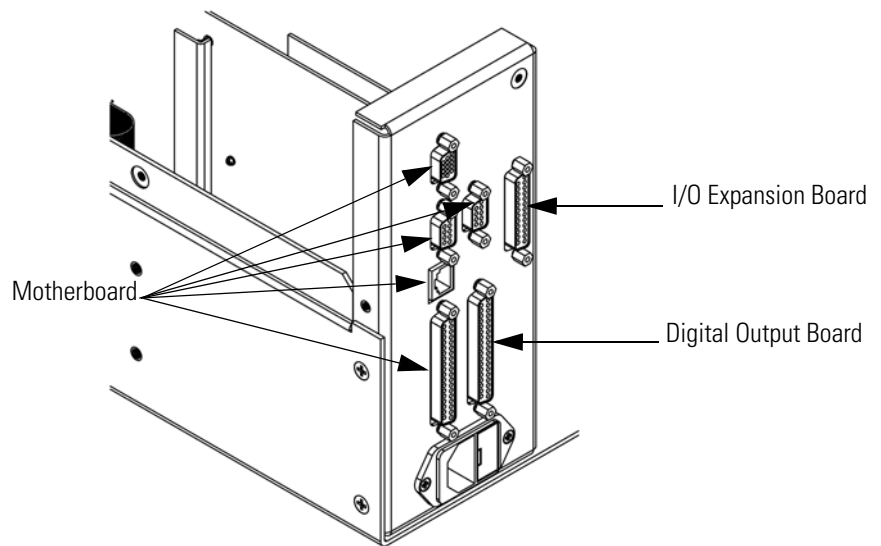

Figure 7-19. Rear Panel Board Connectors
3. Remove the standoffs holding the I/O expansion board connector to the rear panel (Figure 7-19).
4. Using the nut driver, remove the standoffs securing the board to the rear panel (Figure 7-19).